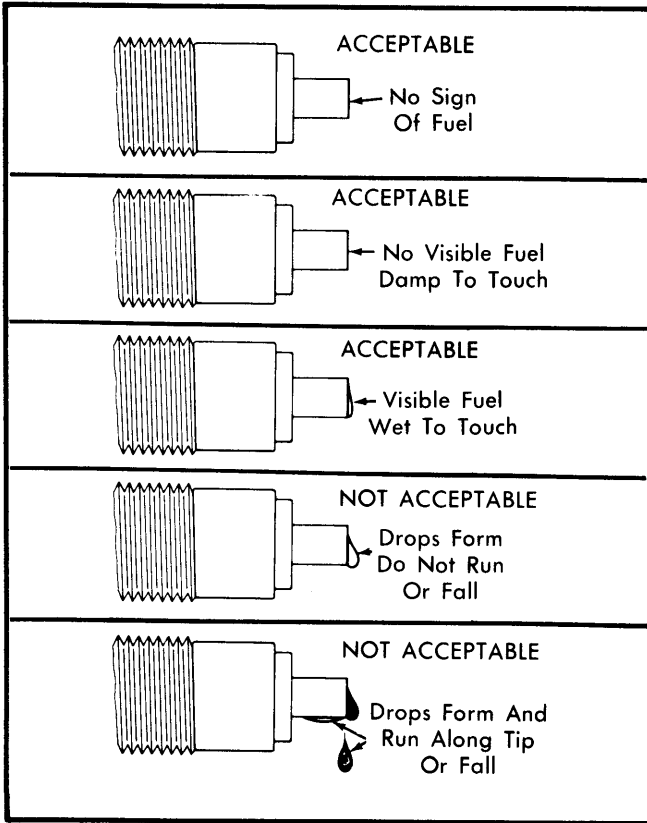

Fig. 8 Injection Nozzle Seat Tightness Check
4) To test nozzle seat for leakage, decrease pressure to at least 290 psi BELOW actual opening pressure. Dry nozzle tip with compressed air, then increase pressure slowly to 218 psi BELOW actual opening pressure. Maintain pressure for 5 seconds and compare fuel leakage to examples. See Fig. 8.